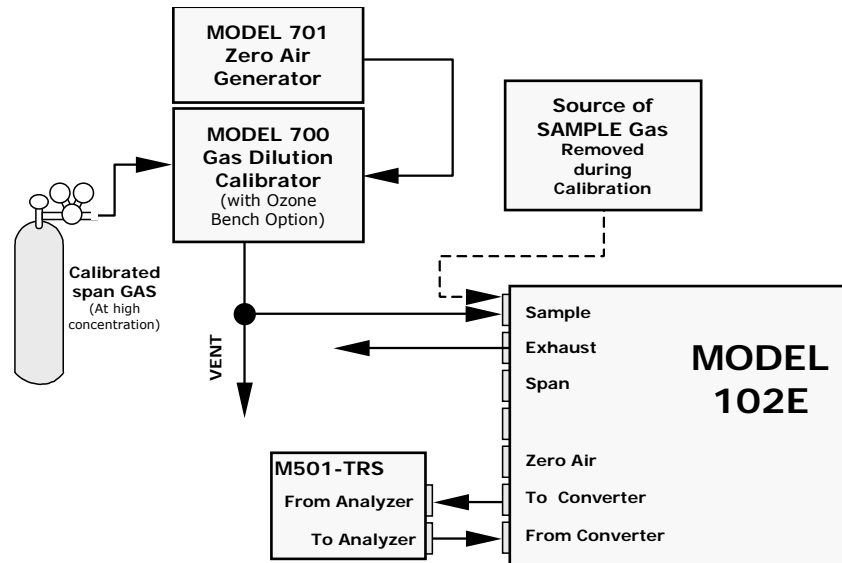
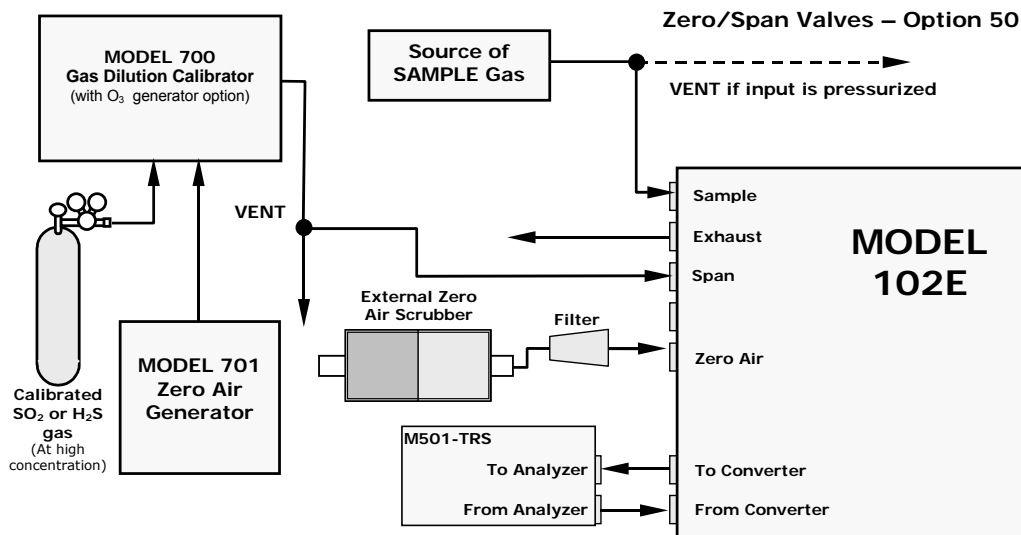

Figure 3-7: Pneumatic Connections–Basic Configuration–Using Gas Dilution Calibrator
Figure 3-9: Basic Pneumatic Connections for Units with Zero/Span Valve Option
Figures 3-7 and 3-8 show the most common configurations for gas supply and exhaust lines to the Model 102E Analyzer. Figures 3-9, 3-10 & 3-11 show the connections for units with valve options installed.
If your analyzer is equipped with either the zero/span valve option (Option 50) or the internal zero/span option (Option 51), the pneumatic connections should be made as shown in Figures 3-9; 3-10 & 3-11:
- With external pneumatic connections as described in Figures 3-7 through 3-11 of this addendum, and;